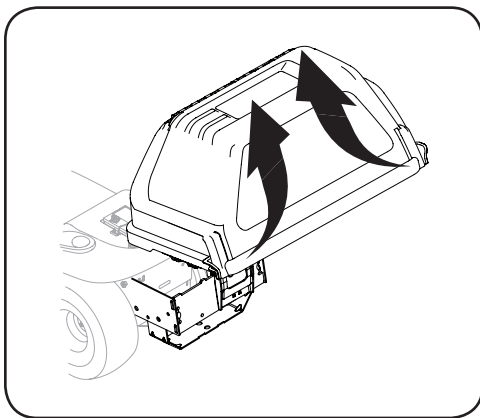

Figure 4-16
- Open the bagger cover by pushing in on the tabs and lifting the upper grass catcher cover. See Figure 4-16.